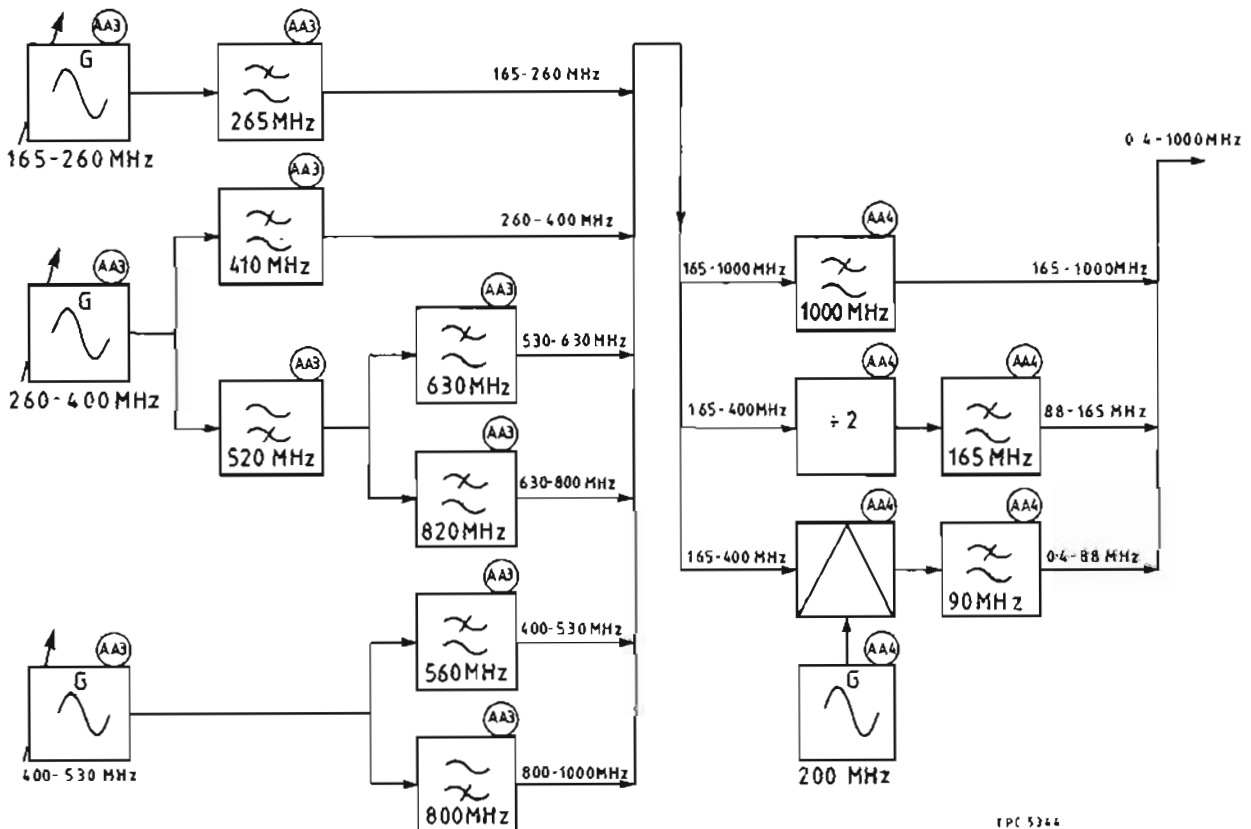

Fig. 5 RF synthesizer frequency generation summary (switching omitted for the sake of clarity) - AA3, AA4
43. Fig. 5 and Table 6 summarize the methods of frequency generation using boards AA3 and AA4 to provide the ten frequency ranges.